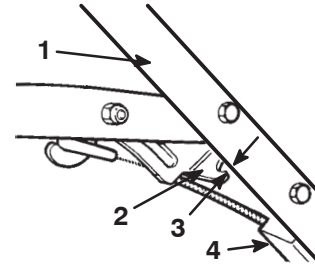

Figure 28
- Loosen the nut on the cable bracket (Fig. 28).